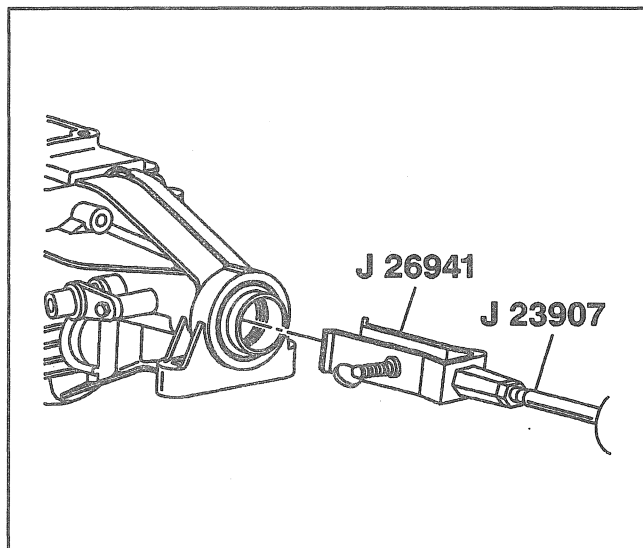

Figure 5—Extension Oil Seal Removal (2WD Models)
Remove or Disconnect (Figure 5)
3. Extension oil seal, using J 23907 and J 26941 (Figure 5).